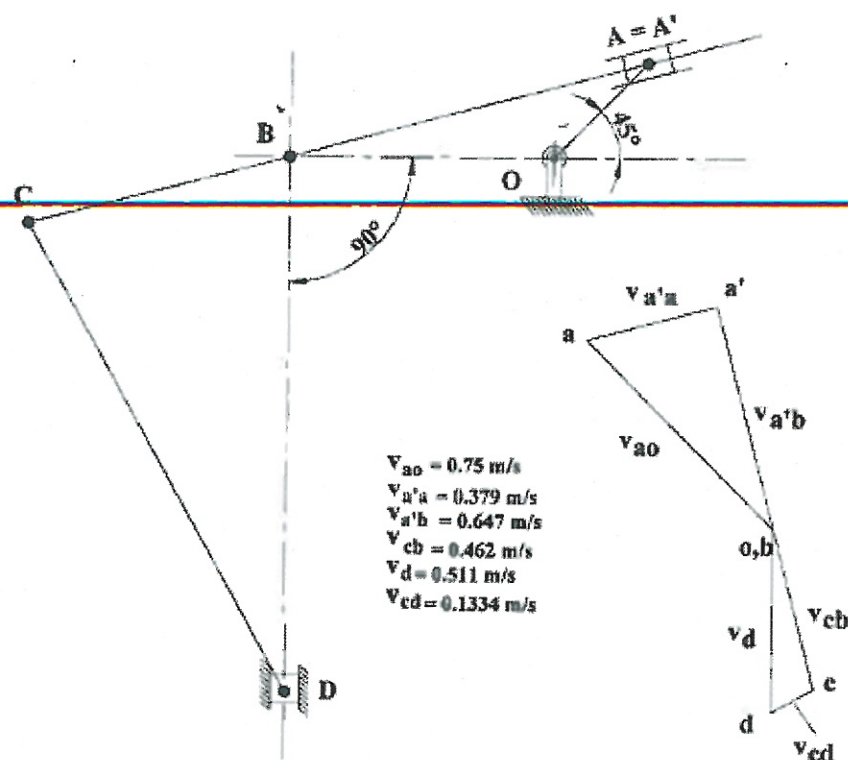

Figure 1
Figure 1 shows the configuration and velocity diagram of a link mechanism in which the link OA rotates uniformly in an anticlockwise direction at 10 rad/s. Link A'BC is pivoted at point B. Block D is constrained to move on vertical direction and is connected to the rest of the mechanism via link CD. The following data is available:
- 1.2 Draw the complete acceleration diagram showing all salient (important) values and determine the acceleration of block D for the instant shown in Figure 1. To draw your acceleration diagram, use the attached annex A where the configuration diagram and an intermediate position of the mechanism are shown for your convenience. Start the acceleration diagram at the point indicated in Annexe A. (19)